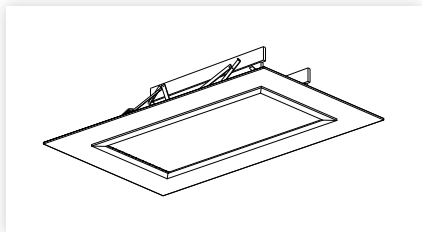

figure 12
1. Fix a suitable architrave around the lid leaving a 2-3mm gap. (figure 12).